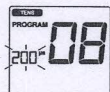

Fig. 2
- Using the UP/DOWN buttons, select the desired impulse width and confirm with the E button (Fig. 2, Example impulse width of 200 μ s).